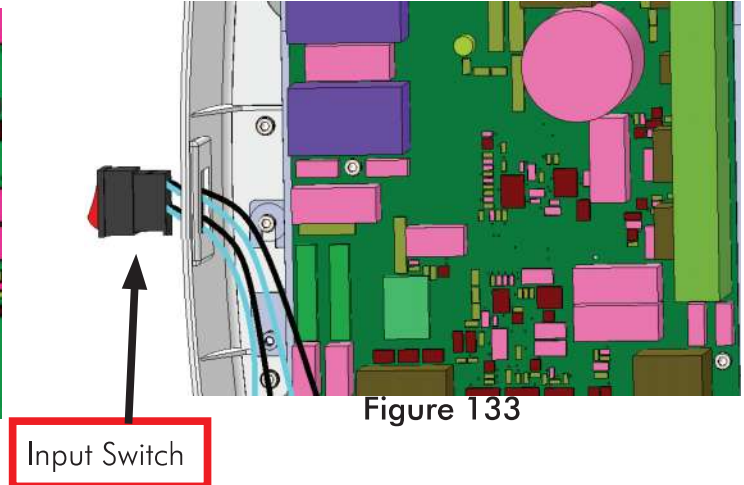

Figure 133
- Pressing the locking flanges on upper & lower side of switch push the switch out from the inner side of the base unit cover.as shown in Figure 133 .
- Take the new switch and fix it in the base unit rear cover by inserting from outside as shown in Figure 133 .